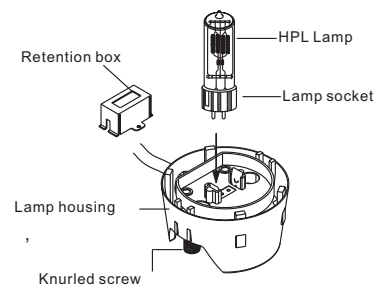

Figure 2
Step 5: If the lamp base is the same as shown in **figure 2**, then first remove the retention box before inserting the new lamp. Save the retention box for future use.